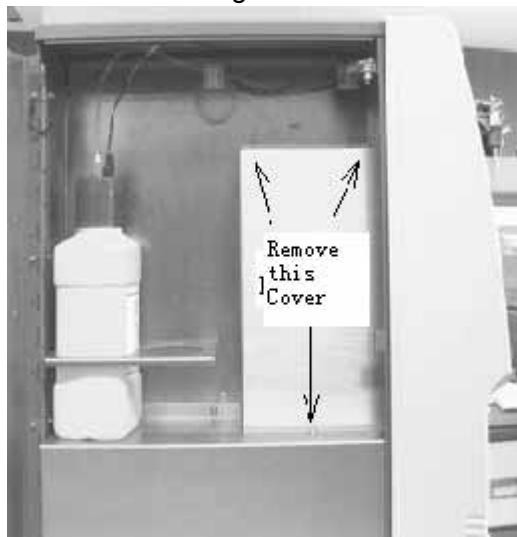

Figure 5-70
1. Open the left side door, then screw-off the 3pcs screws on the shield cover (Figure 5-70)